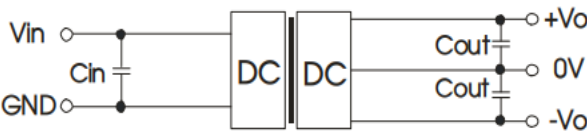

Figure 1: Application circuit
- 1. Typical application: If further reduction of input and output ripple is required, a capacitor filter network can be connected at the input and output ends. The application circuit is shown in Figure 1. However, suitable filter capacitors should be selected. If the capacitance is too large, it may cause overcurrent or poor startup of the power supply. For each output, while ensuring safe and reliable operation, the recommended capacitance load values are shown in Table 1.